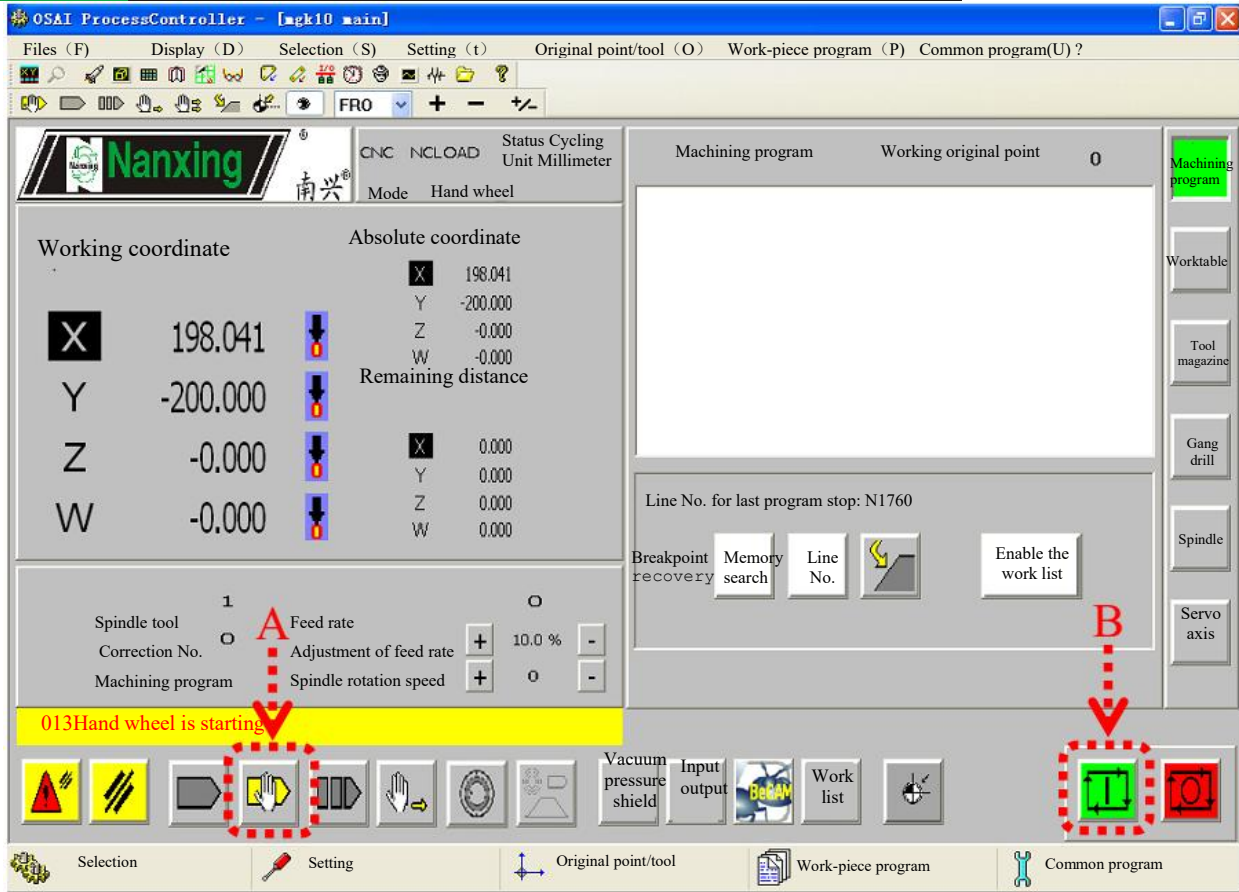

Fig.6.12 Click the button of "MDI" (pop up NC code inputting window)
1. Click  (MDI), as shown in Fig.6.12 (A).
4. Click  (Start-up) to execute the input NC code, as shown in Fig.6.12 (B)